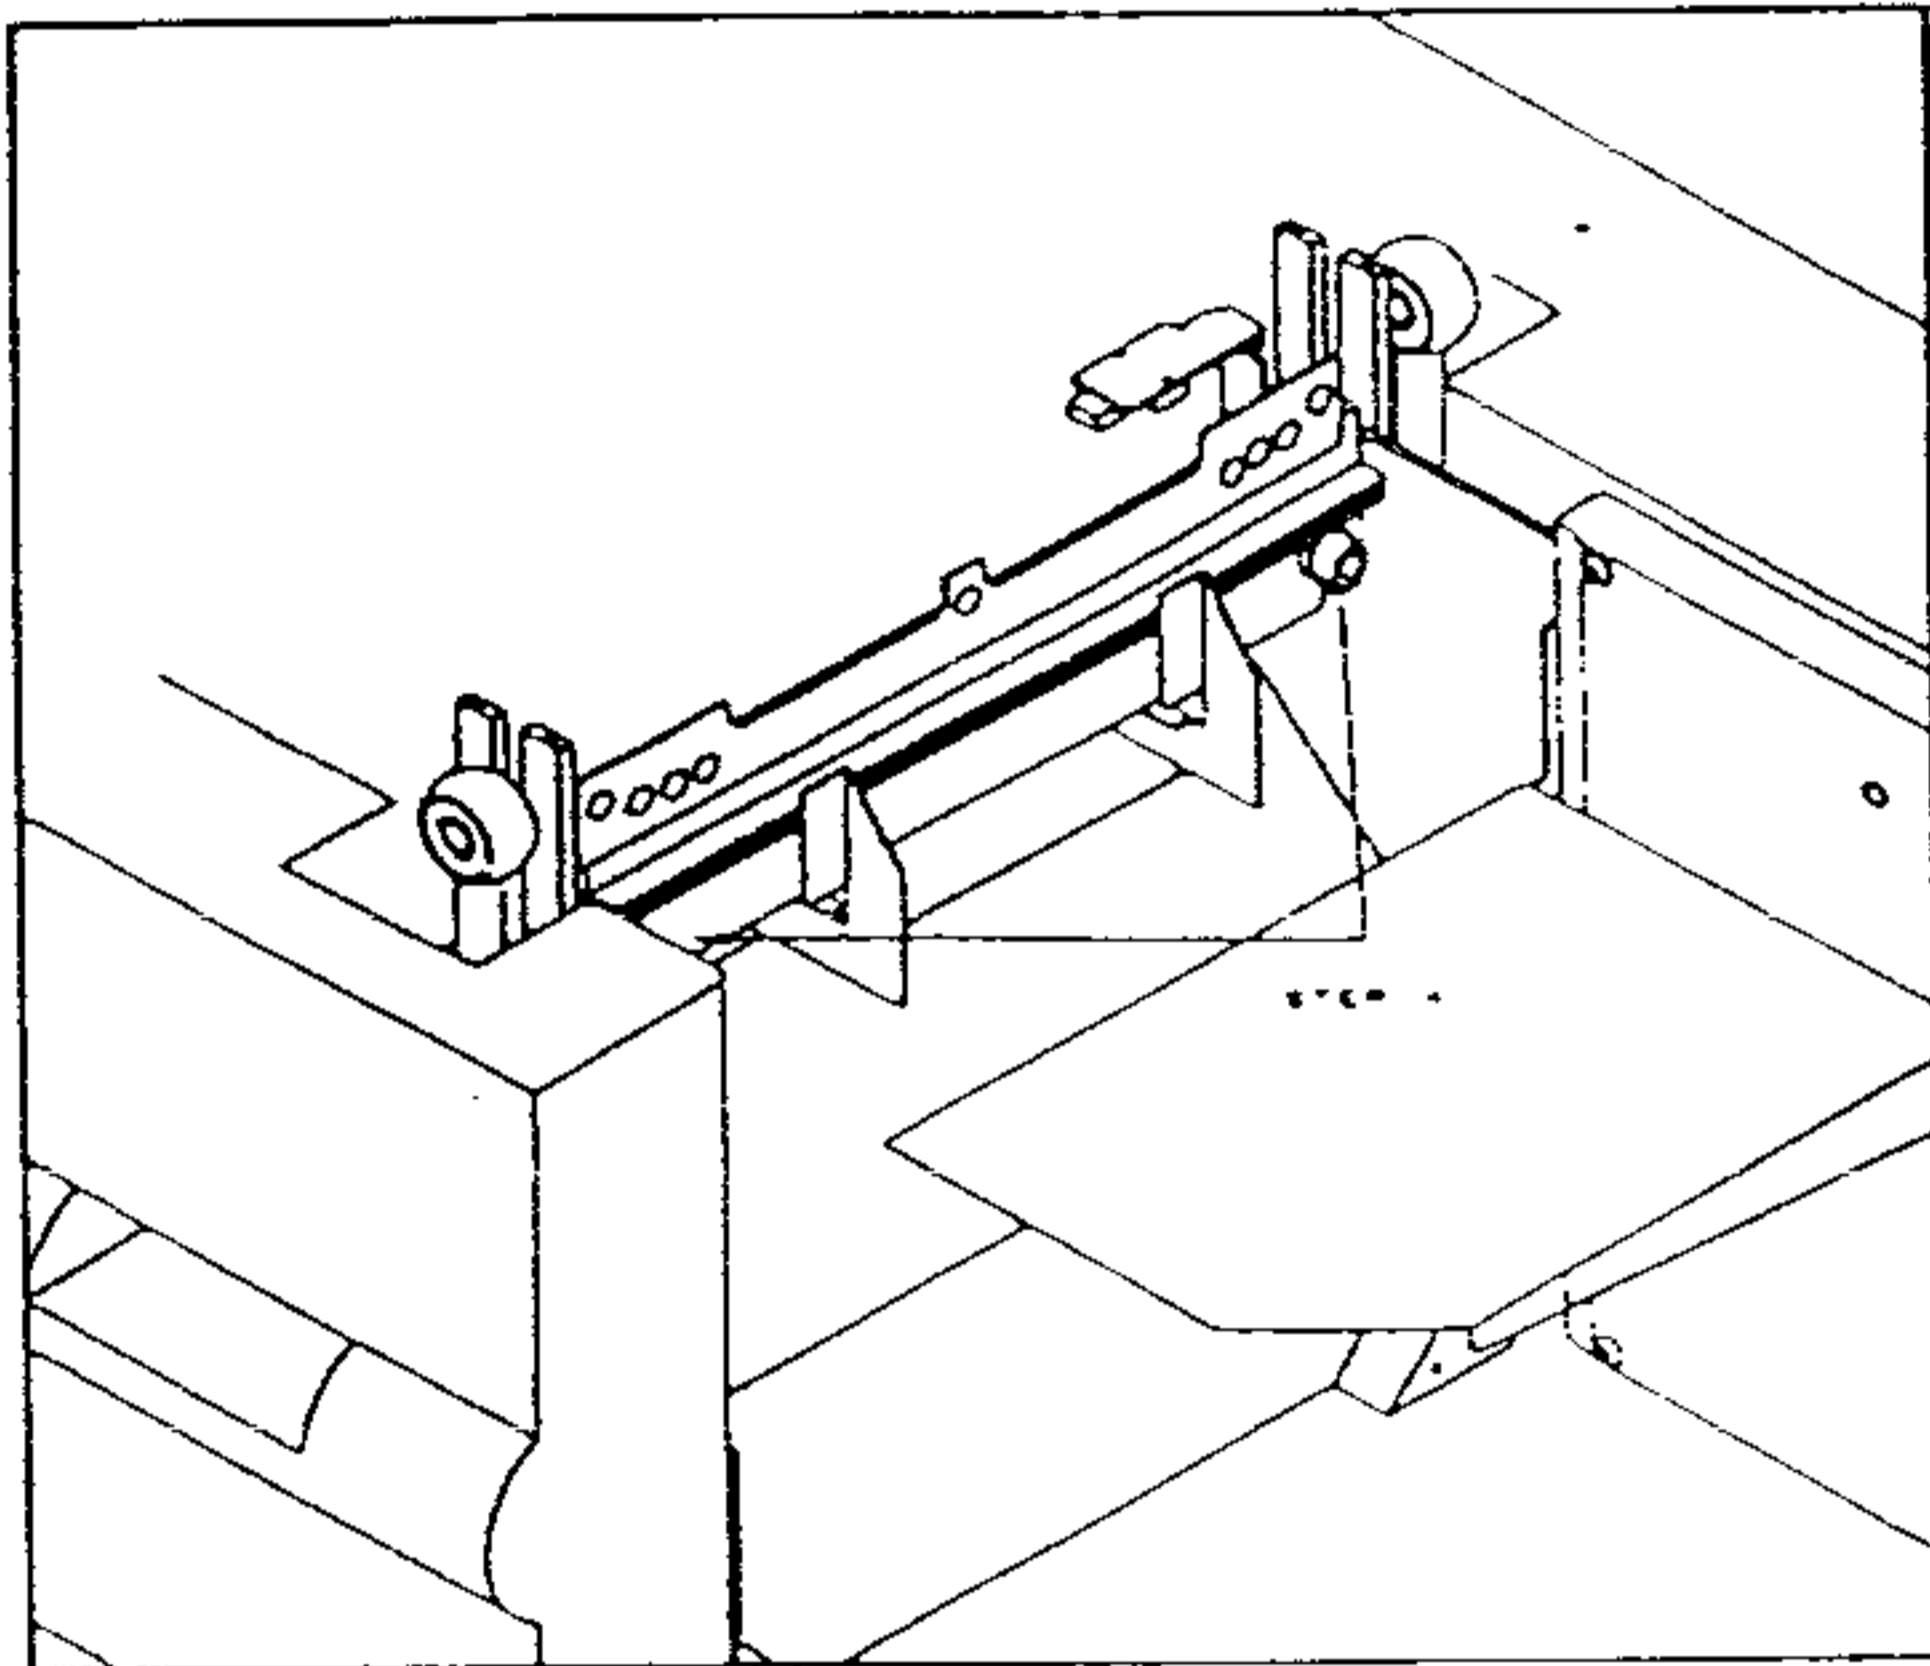

Figure 21
4. With the punch die firmly seated on the Allen head screws and properly engaged with the horizontal platform carefully tighten the screws. Insure that the precision flat washers seat into the counter bores provided for them in the bottom of the punch die. Firmly tighten the screws. (See Figure 21)